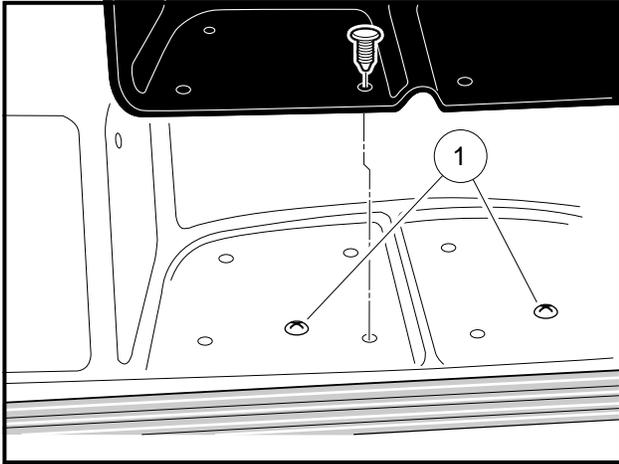

Figure 4-2 Remove Screws Under Bagwell Protector
2. Remove two screws (1) and locknuts located under bagwell protector in bagwell floor (**Figure 4-2, Page 4-6**).
2. Tighten two screws (1) and locknuts located under bagwell protector in bagwell floor to 20 in.lb (2.3 N-m) **(Figure 4-2, Page 4-6)**.